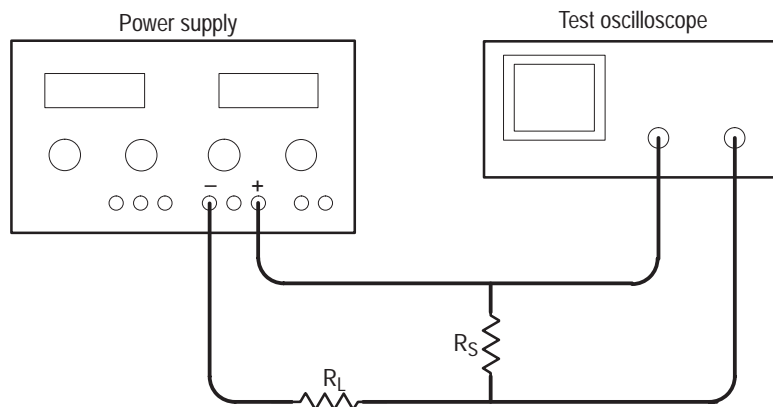

Figure 3: Constant current ripple and noise test setup
4. Connect the test oscilloscope and load resistors to the + and – terminals of the MASTER output as shown in Figure 3. See Table 8 for the appropriate load resistor values.
4. Connect the test oscilloscope and load resistors to the + and – terminals of the SLAVE output as shown in Figure 3. See Table 8 for the appropriate load resistor values.